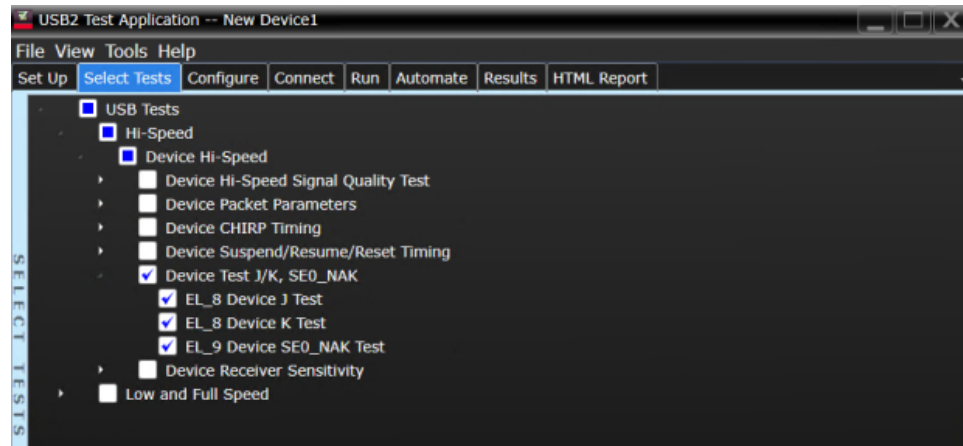

Figure 28. Device Test J/K, SE0_NAK test
1. Select the test items in the automated test software on the oscilloscope, as shown in Figure 28. There is no need to use an oscilloscope to capture the waveform in this test. To form a complete report, use a multimeter to measure the voltage and input the measurement into the test software.